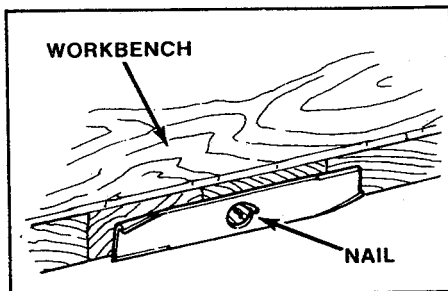

Figure 17. Balancing Blade
6. Check and balance blade. Use a balancing machine or the fixture shown in figure 17. File material off heavier end of blade until it is balanced.